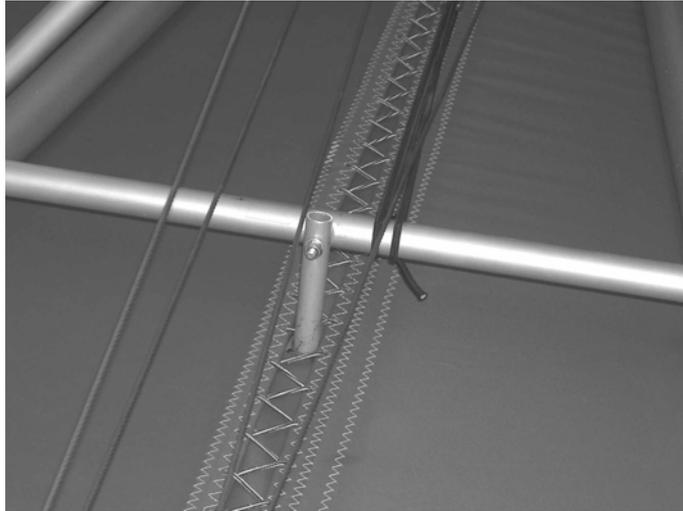

Figure 125; ventral fin front mounting.
- b) Cut a slit in the Velcro flap which covers the fuselage lacing to allow fin tube to pass through the fabric. Push the tube roughly into position, Figure 125.
- g) Secure the front of the fin with a bolt, Figure 125, using spacer washers if required.